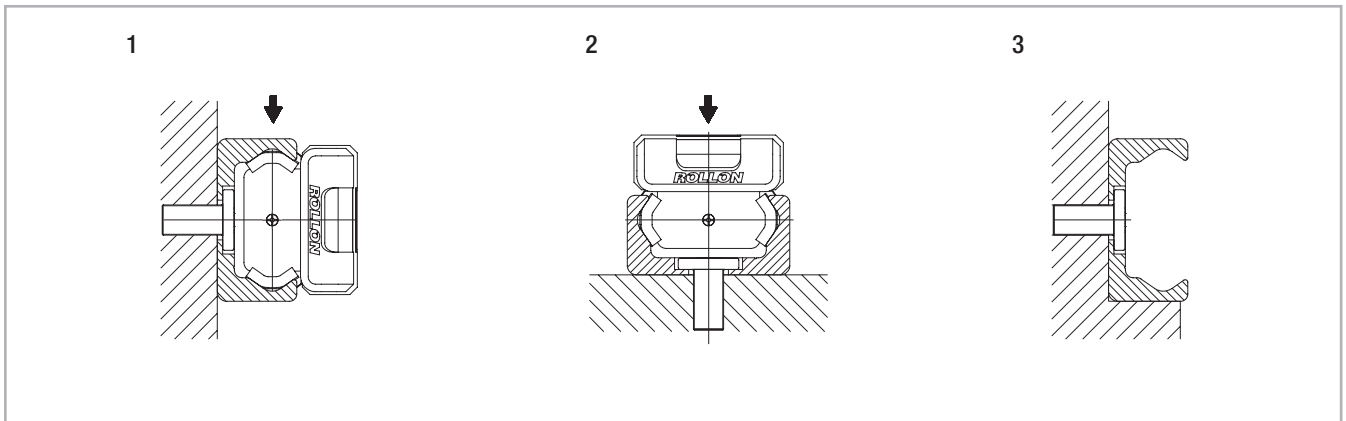

Fig. 157
The T- and K-rails can be installed in two positions relative to the external force. For axial loading of the slider (fig. 157. pos. 2), the load capacity is reduced because of the decline in contact area caused by the change in position. Therefore, the rails should be installed in such a way that the load on the rollers acts in the radial direction (fig. 157. pos. 1). The number of fixing holes in the rail in combination with screws of property class 10.9 is dimensioned in accordance with the load capacity values. For critical applications with vibrations or higher demand for rigidity, a support of the rail (fig. 157. pos. 3) is advantageous.